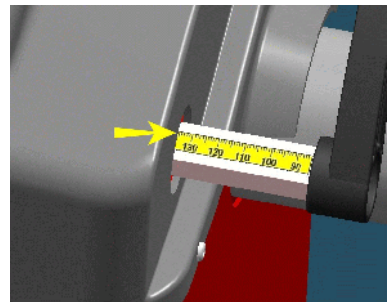

FIG. 8
Insert the distance measurement (IN) (Fig. 8).